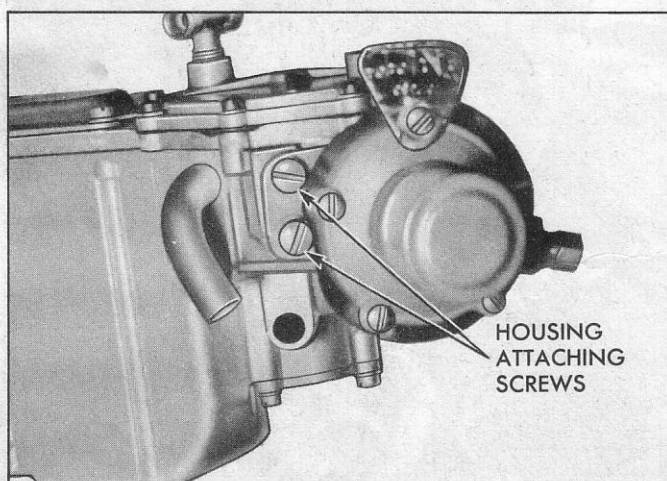

Fig. 75—Installing Enrichment Housing
5. Insert enrichment diaphragm rod in ratio lever, secure enrichment housing to fuel meter with two attaching screws (fig. 75). Retain rod to ratio lever with clip.